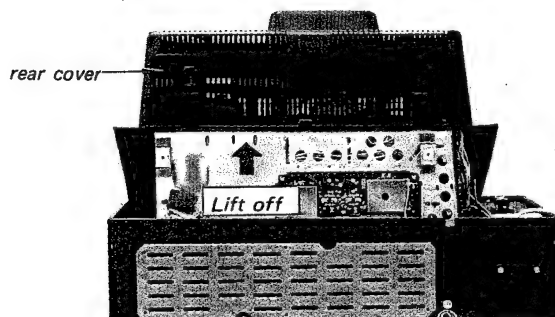

Fig. 2-3.
5. Lift the Rear Cover off as shown in Fig. 2-3.